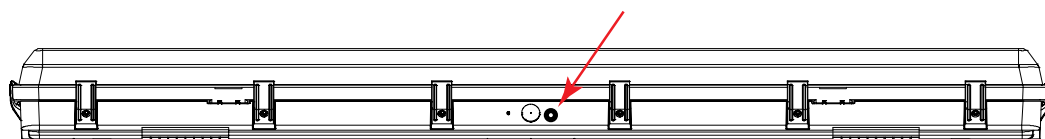

Figure 3
4. Install Test Switch on the side of the fixture by drilling out side KO using 1/2" drill bit as shown in Figure 3.